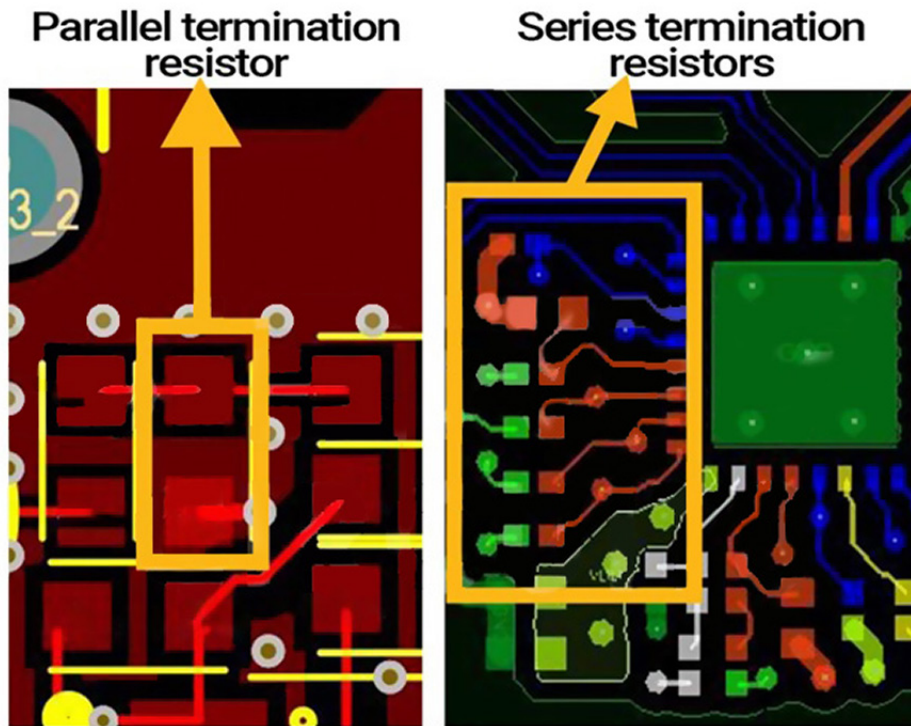

Figure 6. Parallel termination and series termination resistors to prevent reflections and ringing.
2. Parallel termination: Place a termination resistor in parallel with the receiver to reduce signal reflections at the load end (**Figure 6**).